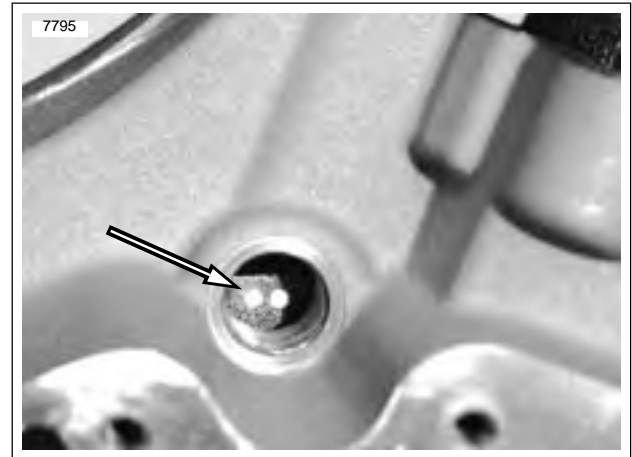

Figure 7-21. Advance Mark for Dynamic Ignition Timing
6. See Figure 7-21. Timing light will flash each time an ignition system spark occurs. Aim timing light into timing inspection hole. The advance timing mark (two dots) should be centered in timing inspection hole.
9. See Figure 7-21. With timing light aimed into inspection hole, rotate module plate until advance timing mark is centered in timing inspection hole.